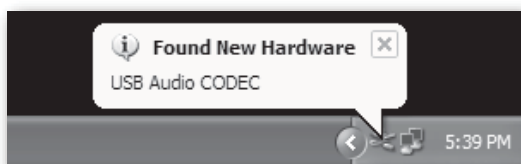

Figure 1
1. The first time you plug the M series into a USB port, Windows will install the universal drivers for that port. A balloon tip will pop up, telling you it has found the USB Audio codec (figure 1).